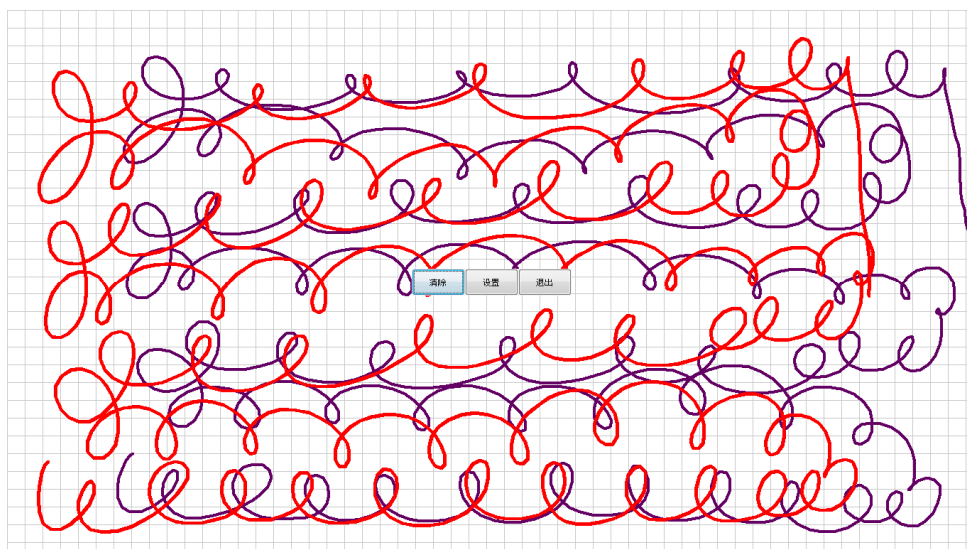

Figure 5.4
- ◆ 使用两支触摸笔进行全屏画线（触摸笔中心间距 40mm）（图 5.4）
Use two styluses to draw lines on full screen (the distance between the center of the touch pen is 40mm) (Fig. 5.4)